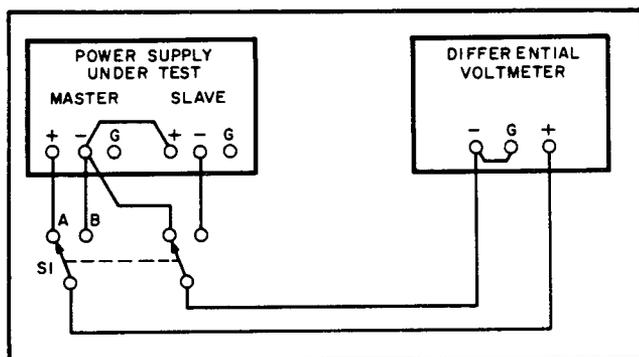

Figure 5-9. Tracking Error Test Setup
5-42 Tracking Error. The tracking error is defined as the difference in percent between the output voltage of the master and slave supplies when the instrument is operated in the tracking mode. The error is measured once for the complete instrument, as opposed to the previous tests in which the test procedure was repeated for both supplies contained in the instrument. The test setup to be used is shown in Figure 5-9. Only the front output terminals should be used for this test; the rear output and sensing terminals cannot be used when the instrument is operated in the tracking mode. In addition, note that the minus output terminal of the master (left) supply must be used as the terminal
- Connect test setup shown in Figure 5-9.
- Set front panel mode switch to TRACKING, and connect jumper between minus output terminal of left supply and positive output terminal of right supply as shown on front panel and in Figure 5-9.